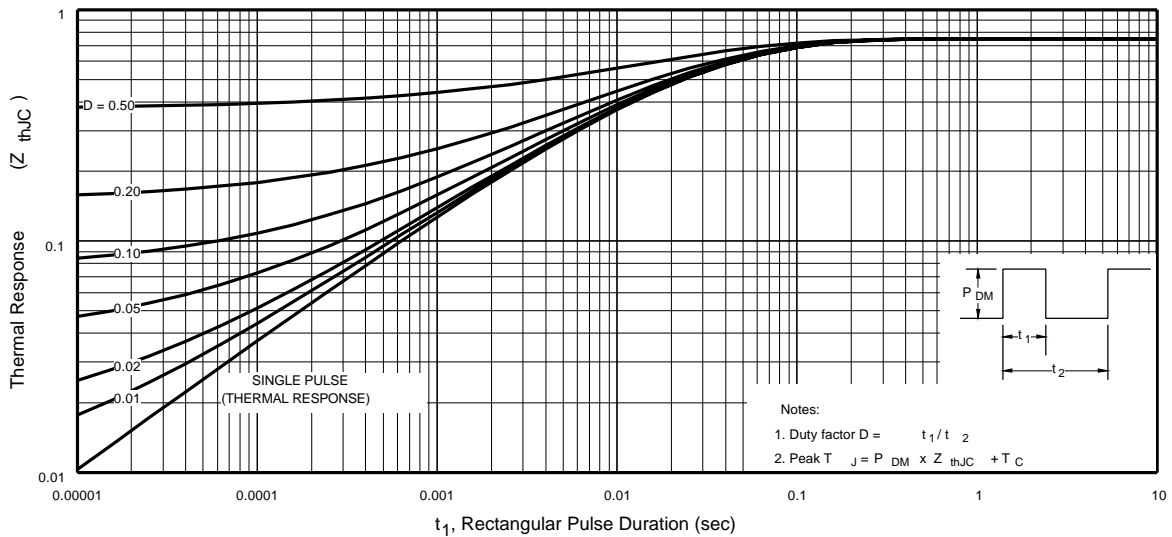

Fig 11. Maximum Effective Transient Thermal Impedance, Junction-to-Case
- ① Repetitive rating; pulse width limited by max. junction temperature. (See fig. 11).
- ② Starting $T_J = 25^\circ\text{C}$, $L = 0.130\text{mH}$
$Z_{thJC}(D, t_{av})$ = Transient thermal resistance, see figure 11)